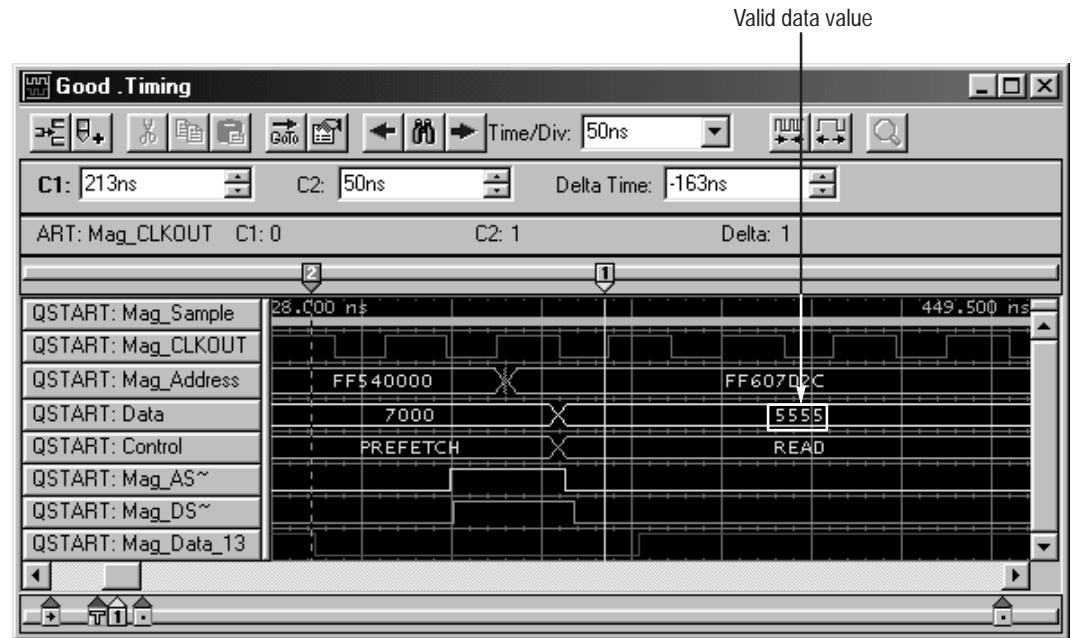

Figure 4–23: Good Timing Waveform window, identifying valid data read
8. Open the Good Timing Waveform window (Figure 4–23).
The Waveform window in Figure 4–23 shows the detailed timing of the memory read cycle at sample 1, captured from the good acquisition run. Note that the valid data value read by the processor should be 5555.
2. Click on the LA module Setup icon. The LA module Setup window appears (see Figure 4–24 on page 4–31).